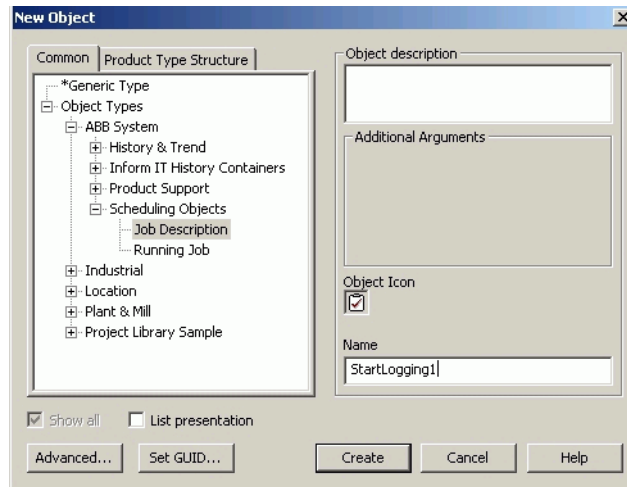

Figure 137. New Object Dialog
3. In the New Object dialog, Figure 137, select **Job Description** and assign the Job object a logical name (for example StartLogging1).